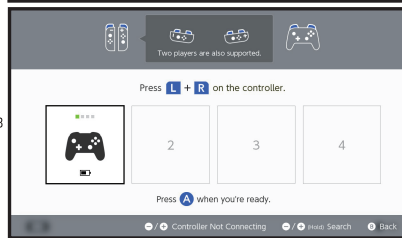

Figure 3
6. After the controller is successfully connected to the console, the controller icon will appear on the Switch console display. Press the A button on the wireless controller to confirm and press the B button to return to the main page for game operation. (Figure3)